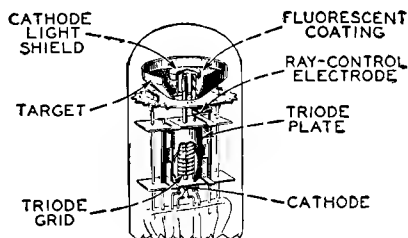

Fig. 64
Electron-ray tubes are designed to indicate visually by means of a fluorescent target the effects of a change in controlling voltage. One application of them is as tuning indicators in radio receivers. Types such as the 6U5, 6E6, and the 6AB5/6N5 contain two main parts: (1) a triode which operates as a dc amplifier and (2) an electron-ray indicator which is located in the bulb as shown in Fig. 64. The target is operated at a positive voltage and, therefore, attracts electrons from the cathode. When the electrons strike the target they produce a glow on the fluorescent coating of the target. Under these conditions, the target appears as a ring of light.